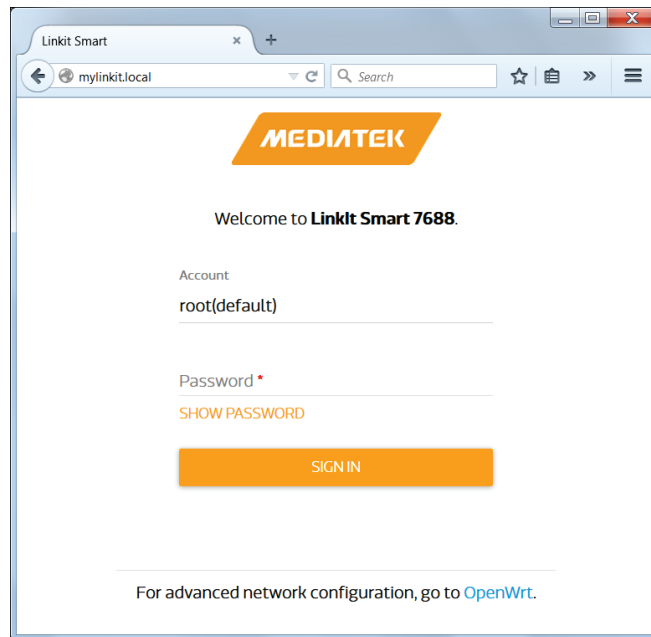

Figure 13 LinkIt Smart 7688 Web UI Sign In
- 3) Open a web browser and type **http://myLinkIt.local** in the URL box. The Web UI page opens as shown in Figure 13.